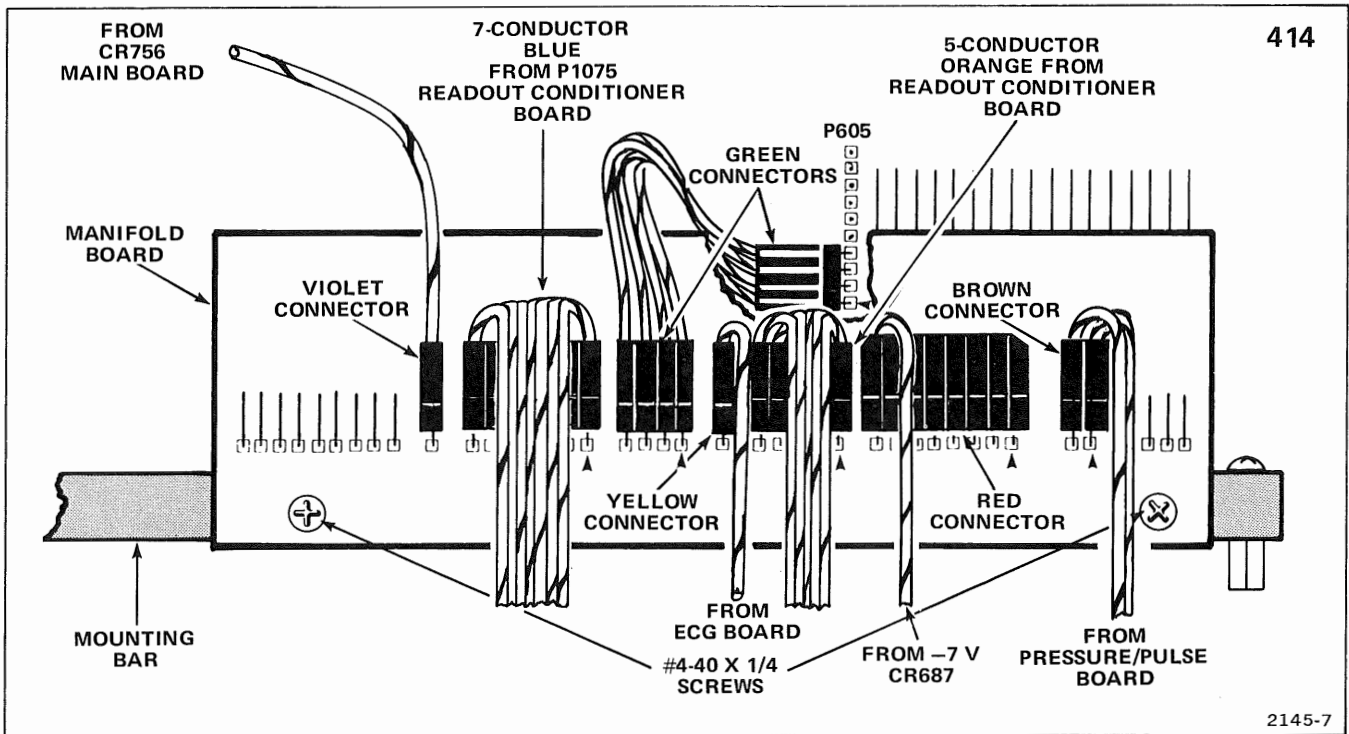

Figure 1-21. Installing Manifold Board and connecting cables to 414.
10. Connect four-wire cable with green connector to P605, install Manifold Board and connect remaining cables. See Figure 1-21.